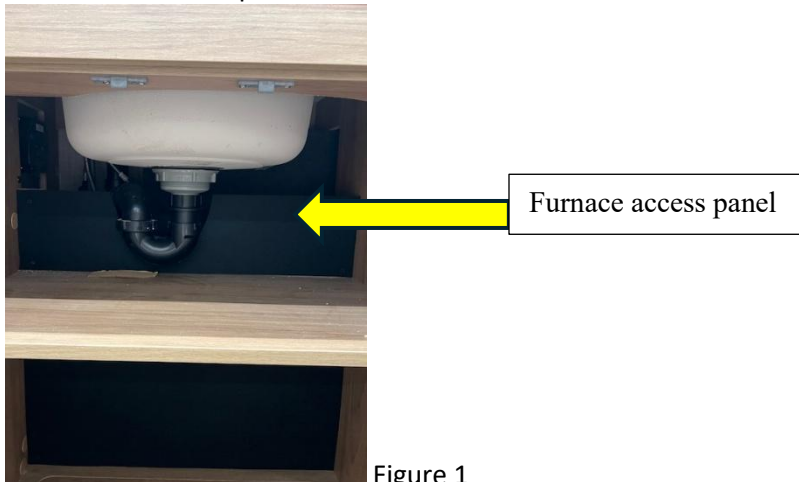

Figure 1
- Under the galley sink, locate the furnace access panel, see figure 1.